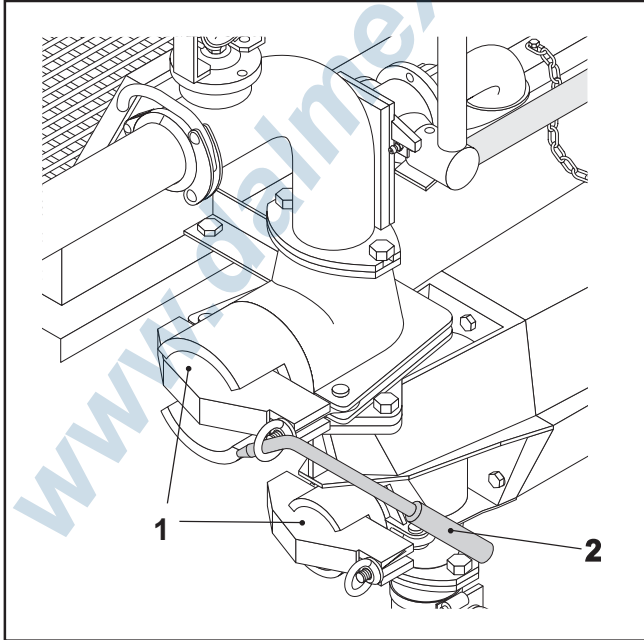
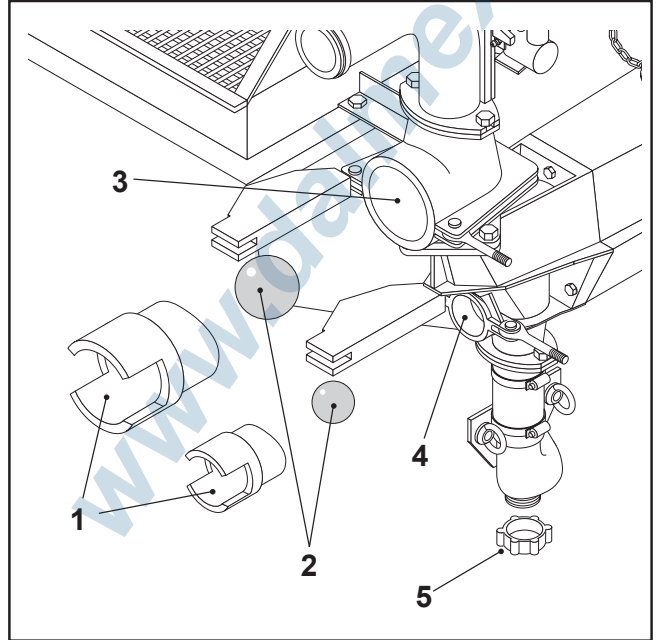
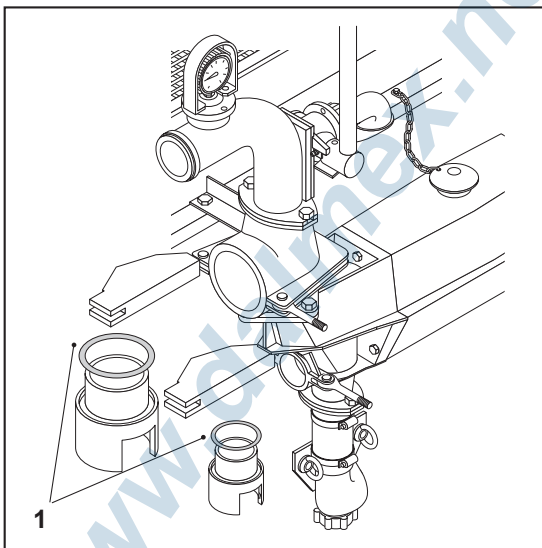

FIG.54
FIG.55
FIG.56
Open the stands (FIG.54-REF.1) acting on the ring nuts with the relevant key (FIG.54-REF.2) supplied.
Disassemble the inspection caps (FIG.55-REF.1) of the valves and remove the two rubber balls (FIG.55-REF.2) that are found inside.
- Check and if necessary replace the inspection cap gaskets (FIG.56-REF.1).
Disassemble the inspection caps (FIG.55-REF.1) of the valves and remove the two gaskets (FIG.56-REF.1) positioned in the housing.
Open the stands (FIG.54-REF.1) with the relevant key (FIG.54-REF.2) supplied.
Disassemble the inspection caps (FIG.55-REF.1) of the valves and remove the two rubber balls (FIG.55-REF.2) that are found inside and wash the intake valve body (FIG.55-REF.4) and the flow valve body (FIG.54-REF.4) well.
Remove the discharge cap (FIG.55-REF.5) of the intake pipe.